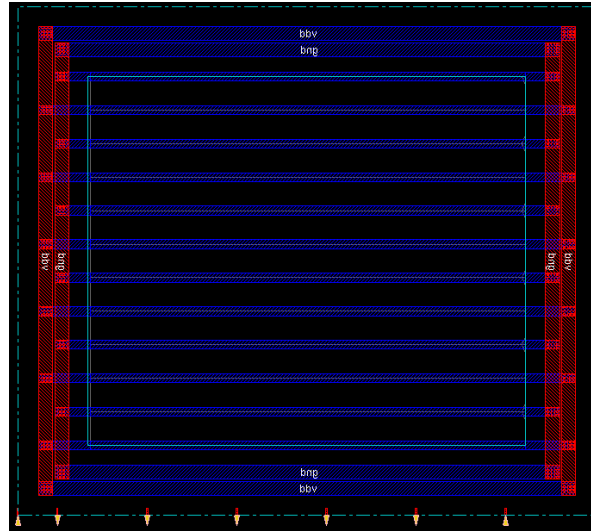

Figure 14: Example of floorplan with rings after adding Follow Pins
- `route_special -connect core_pin` **FOLLOW PINS**: Connects the power/ground rails of the standard cell rows, also known as “follow pins”. These, also, should be connected through abutment (after adding fillers) but this virtually connects them and also connects them to the vertical rings around the boundary. An example of a floorplan with follow pins connecting to the rings is shown in Figure 14.